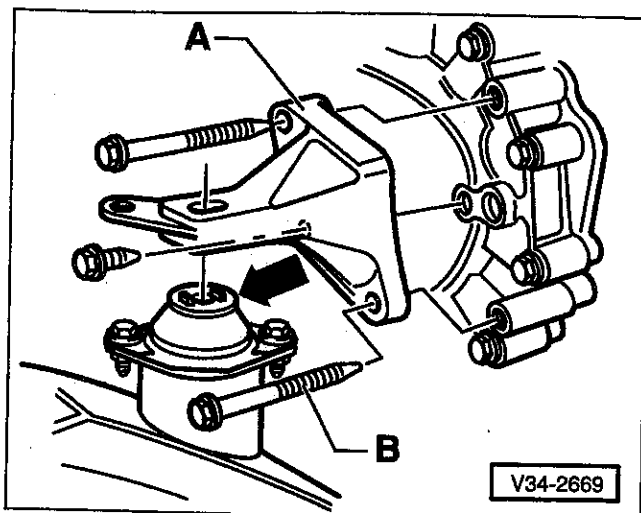

Fig. 23. Mounting bolts (B) for transmission mount (A).
24. Remove transmission mount from transmission. See Fig. 23.